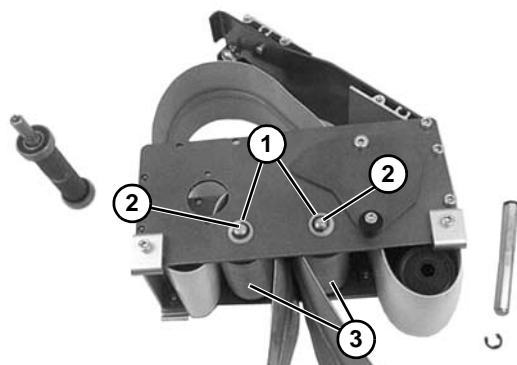

Figure 103
- a. For 2" (44 mm), 3" (70 mm) or 4" (95 mm) wide conveyor, remove E-ring clips and washers (Figure 103, item 1). Remove pulley shafts (Figure 103, item 2) and pulleys (Figure 103, item 3).